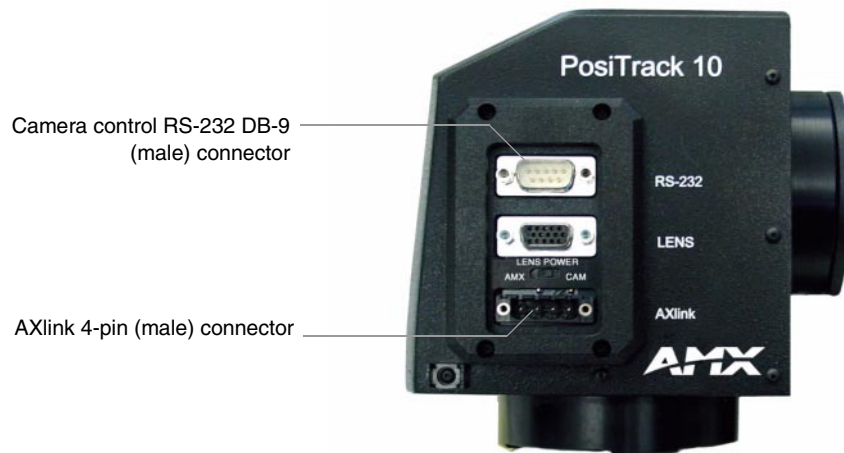

FIG. 10 Side view of the AXB-PT10 showing the location of the AXlink connector.
- 13.** Support the weight of the camera cables with a wire tie attached to the wire tie mount on the lower corner of the face of the AXB-PT10 (FIG. 10).
Each PosiTrack Controller has an RS-232 DB-9 connector, lens control DB-15 high-density connector, and an AXlink 4-pin connector. Always provide enough cable to accommodate the desired range of motion for the PosiTrack unit and its camera/lens. The Lens Power switch on the control panel (FIG. 10), removes any power noise on the incoming video by turning power On/Off to Pin 1 of the DB-15 lens control connector when the camera/lens is powered from a separate supply.